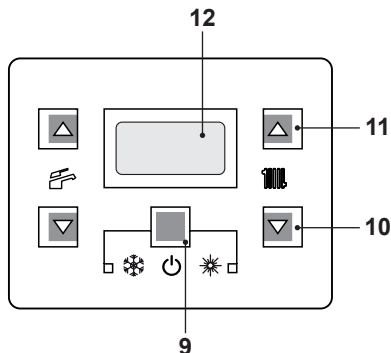
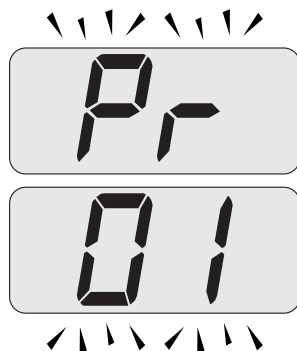
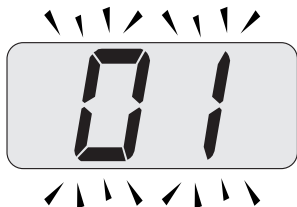

Fig. 8.31
Fig. 8.32
Fig. 8.33
- Enter the "programming mode" by sequentially pressing and holding in keys, 9 - 10 and then 11 (Fig. 8.31) for 10 seconds until the letters **Pr** that alternate with code **01** are displayed on the LCD display, indicating that "parameter 01" (Fig. 8.32) has been activated.
- Press keys 9 and 11 (Fig. 8.31) at the same time until the value of parameter 01 (25=**ADVANCE 150V**, 26=**ADVANCE 180V** or 29=**ADVANCE 240V**) is displayed on the LCD display (Fig. 8.33).
- Press keys 9 and 10 (Fig. 8.31) at the same time to exit without changing the value (return to the parameters list Fig. 8.32).
- Press sequentially keys, 9 - 10 and then 11 (Fig. 8.31) and hold in for 10 seconds to exit the "programming mode".